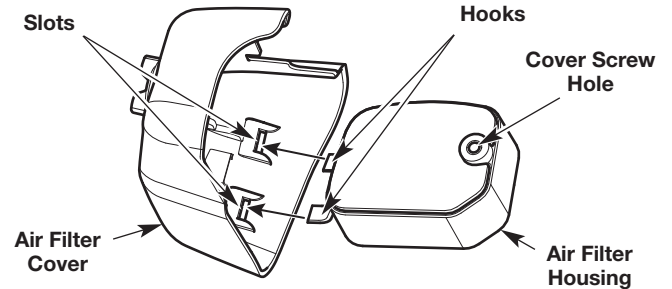

Fig. 32
7. Insert the hooks on the air filter housing into the slots on the air filter cover (Fig. 32).
8. Swing the air filter cover to the right and align the cover screw with the cover screw hole (Fig. 32). Tighten the cover screw to secure the air filter cover.